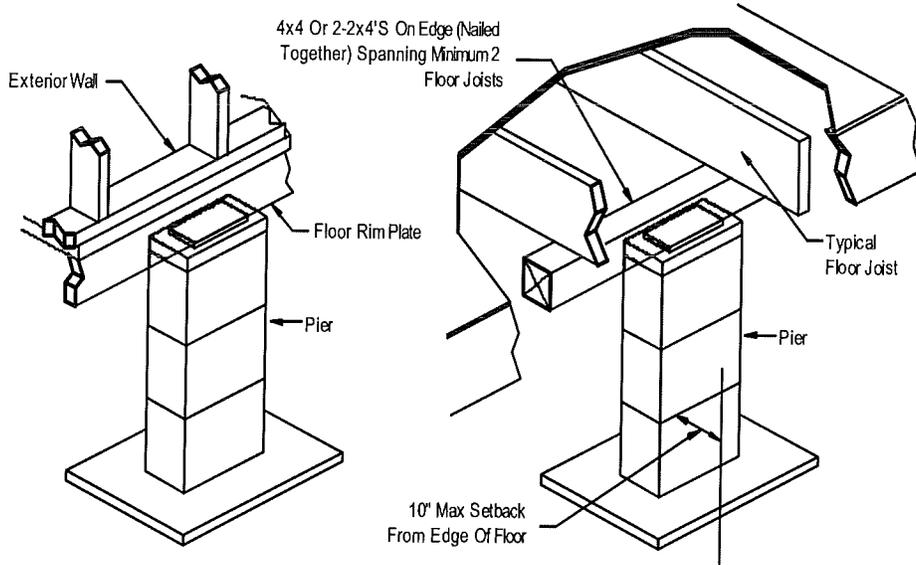

Figure 14. Perimeter supports
- Recess perimeter blocking supports and perimeter point load supports no more than 10 inches from the edge of the floor with added support as shown in Figure 14.